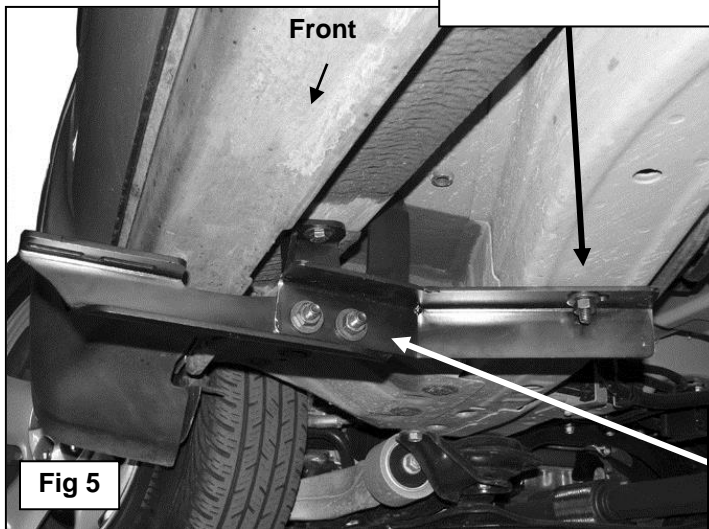

Fig 5
it stops turning. **NOTE:** To help determine the correct inner mounting hole on the frame to use, hold the Support Bracket up to the back of the Front Bracket with the inner end lined up with the hole in the bottom of the frame channel, **(Figure 5)**.
5. Bolt the driver side Support Bracket to the back of the front Mounting Bracket with (2) 10mm x 35mm Hex Bolts, (4) 10mm Flat Washers, (2) 10mm Lock Washers and (2) 10mm Hex Nuts, **(Figure 5)**. Next, hang the inner end of the Support Bracket from the previously installed Bolt Plate using (1) 10mm Flat Washer, (1) 10mm Lock Washer and (1) Hex Nut. Do not fully tighten hardware at this time.